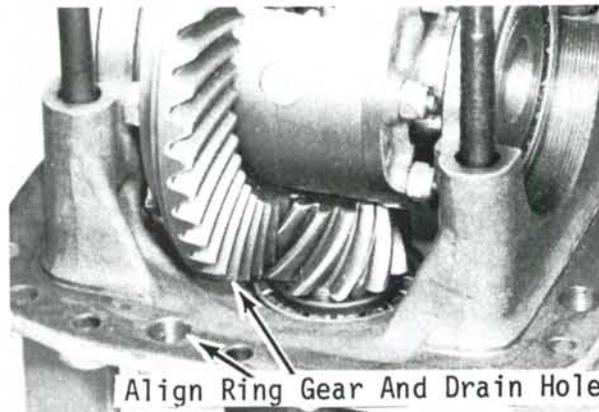
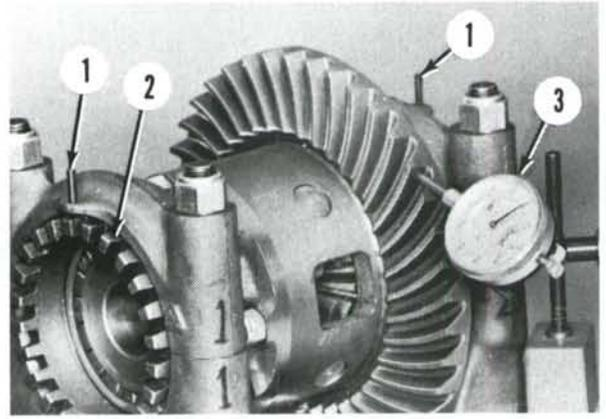

Fig. 29—When installing differential unit in carrier, make sure ring gear is on same side as drain hole in carrier.
Fig. 30—Dial indicator probe should be against outer tip of ring gear tooth when measuring backlash.
**36. DIFFERENTIAL CARRIER BEARINGS AND BEVEL GEAR BACKLASH.** Pinion shaft protrusion and bearing preload must be properly set before adjusting differential carrier bearings. Install differential unit in carrier housing making certain ring gear is aligned with drain hole in carrier as shown in Fig. 29. Install bearing support caps, but do not tighten retaining nuts securely at this time. Install bearing adjuster rings and turn adjuster ring on ring gear side of differential until ring gear contacts pinion gear. Then turn adjuster ring on side opposite ring gear until all bearing end clearance is removed, but do not preload bearings. Mount dial indicator as shown in Fig. 30, then hold pinion shaft and move ring gear to check backlash. Turn adjuster rings as needed to move ring gear sideways to obtain recommended backlash of 0.15-0.25 mm (0.006-0.010 inch). Loosen adjuster ring one notch at a time and tighten opposite adjuster ring the same amount when setting backlash.
After bevel gear backlash is properly adjusted, turn adjuster ring on each side of differential clockwise two notches to provide recommended bearing preload. Tighten bearing cap mounting nuts to 210 N·m (155 ft.-lbs.) torque, then recheck for correct backlash. Drive roll pin (1—Fig. 30) into notch of each adjuster ring to secure adjustment.